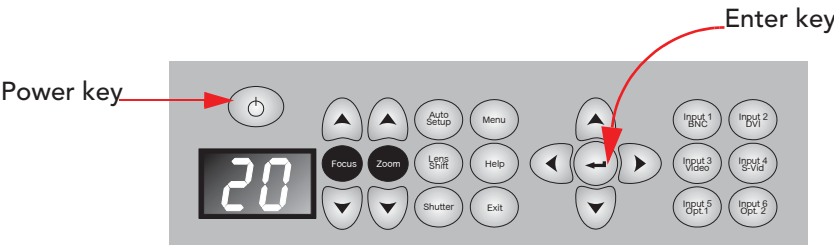

Figure 3-4 Built-in Keypad at Rear of Projector
- The built-in keypad (Figure 3-4) located at the rear of the projection head